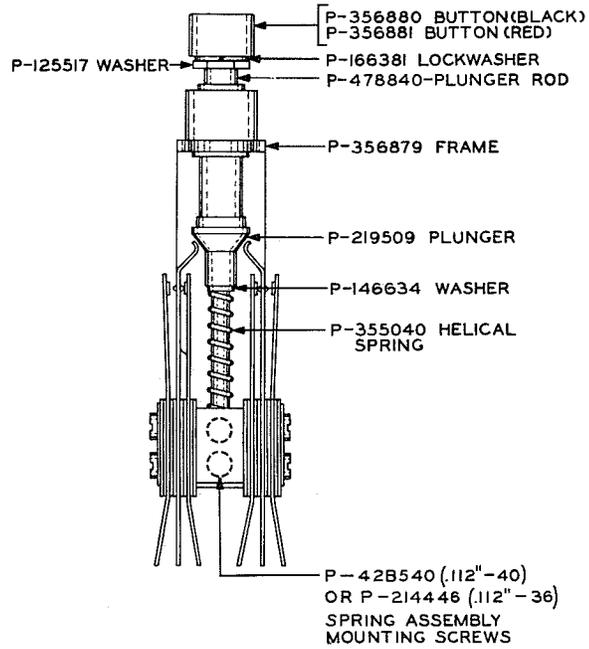

Fig. 5 - 576-type Key
4. To revise Fig. 5 to add a piece-part number for the mounting block screws (information to Western Electric Company covered by C0-513663).